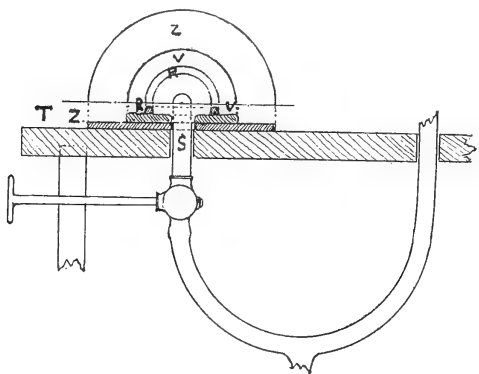

fig 17
The lower part of the pipe passes through a table (T) and the opening is on a level with the surface of this table. It is there that the mould (M), thoroughly dried out, is placed. On the table rests a circular plaque in zinc (Z) 20 inches in diameter, to facilitate cleaning (fig. 17).
In order to avoid the leaking of slip through the interstices between the mould and the table, a circular plaque of virgin beeswax (V) $\frac{1}{4}$ -inch thick, is kept around the opening (fig. 17), and is glued with wax softened by the heat of the hand. Even then it may happen that streams of slip will escape, and to make the closing of the mould absolutely tight, a long and narrow wad of fresh slip (R) is rolled and placed on the wax all around the opening of the pipe. The mould being placed on this wad flattens it and makes the closing perfectly tight.